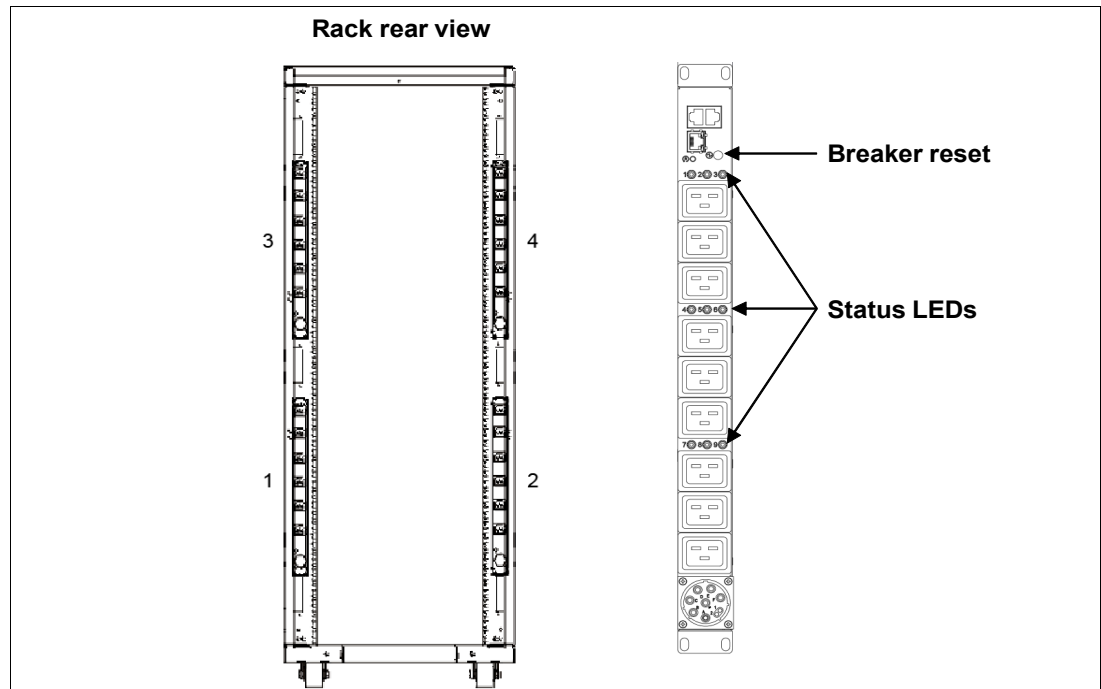

Figure A-2 Power distribution unit placement and view
- ▶ Up to four PDUs can be mounted in the PDU bays (see Figure A-2 on page 58), but others can fit inside the rack. For more information, see “The AC power distribution unit and rack content” on page 57.
Four PDUs can be mounted vertically in the back of the S42 and T42 racks. Figure A-2 shows the placement of the four vertically mounted PDUs. In the rear of the rack, two more PDUs can be installed horizontally in the T00 rack and three in the S42 and T42 rack. The four vertical mounting locations are filled first in the S42 and T42 racks.